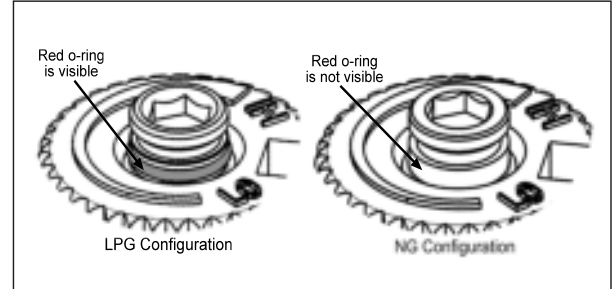

Figure 17: O-ring on Valve Screw
- If converting to NG ensure the red o-ring is not visible (see Figure 17).